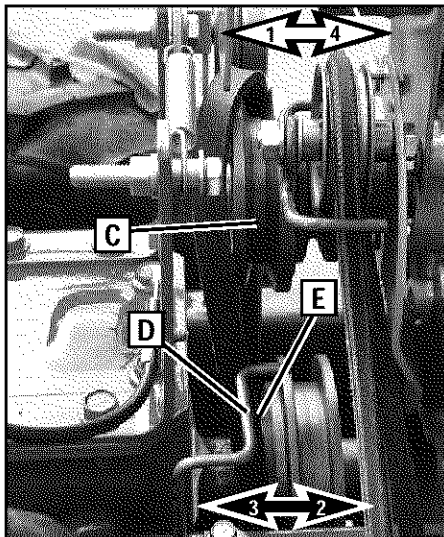

Figure 5-18
5. Slide the forward clutch belt off the engine pulley (C, Figure 5-18), away from engine (in the direction of arrow 1), out from behind the belt guide (D), and completely off the pulley.
6. Slip the belt off the front of the transmission pulley (E, Figure 5-18, in the direction of arrow 2).
4. Insert the bottom half of belt into the smaller, rear-most groove of the transmission pulley (E, Figure 5-18, in the direction of arrow 3). Now slip the top half of belt behind the belt guide (D, Figure 5-18, in the direction of arrow 4) and onto the large groove of engine pulley (C, Figure 5-18).